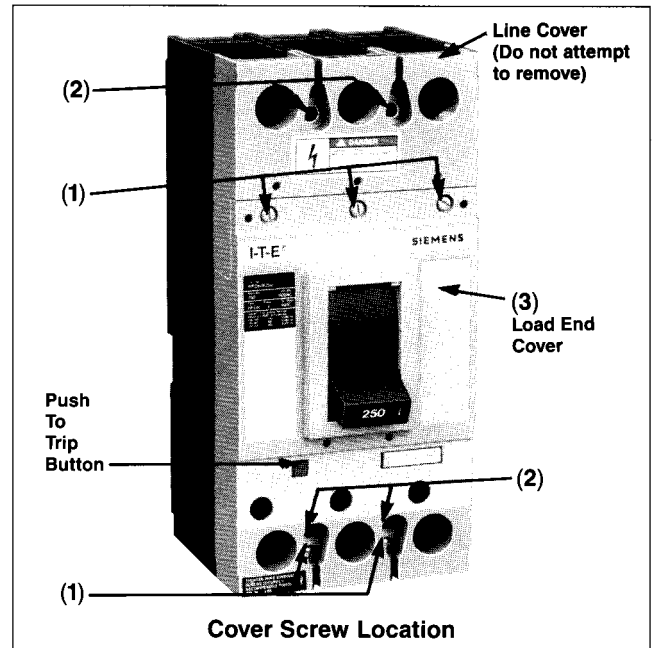

Figure 1
- A. Depress trip button (Figure 1) to trip circuit breaker prior to removing cover. Before attaching accessory unit, circuit breaker must be in tripped position.
- B. Remove five load end cover screws (1) and, if breaker is mounted, also remove mounting screws (2). Remove load end cover only (3). For ease of installation, handle and handle barrier may also be removed. Accessory units can be mounted in either right or left poles of the circuit breaker.